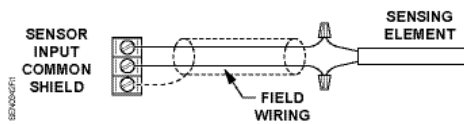

Figure 2. Wiring.
1. Connect the field wiring to the sensor lead wires using the wire nuts provided. See Figure 2.